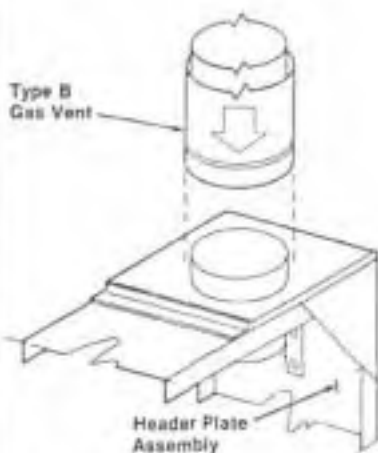

Figure 9
Step 6: Connect a 4" type B vent to the top collar, located at the rear of the header plate assembly. (Refer to Figure 9).